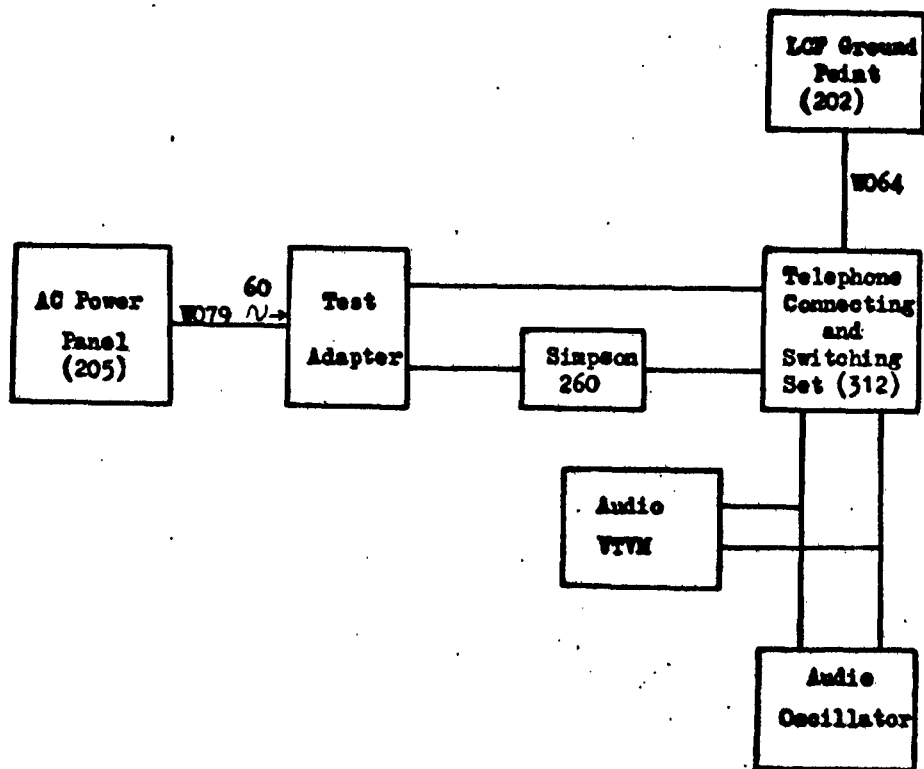

Figure 3.1.1.9-1
3.1 Connect the equipment per Figure 3.1.1.10-1 with the Battery Charger OFF.